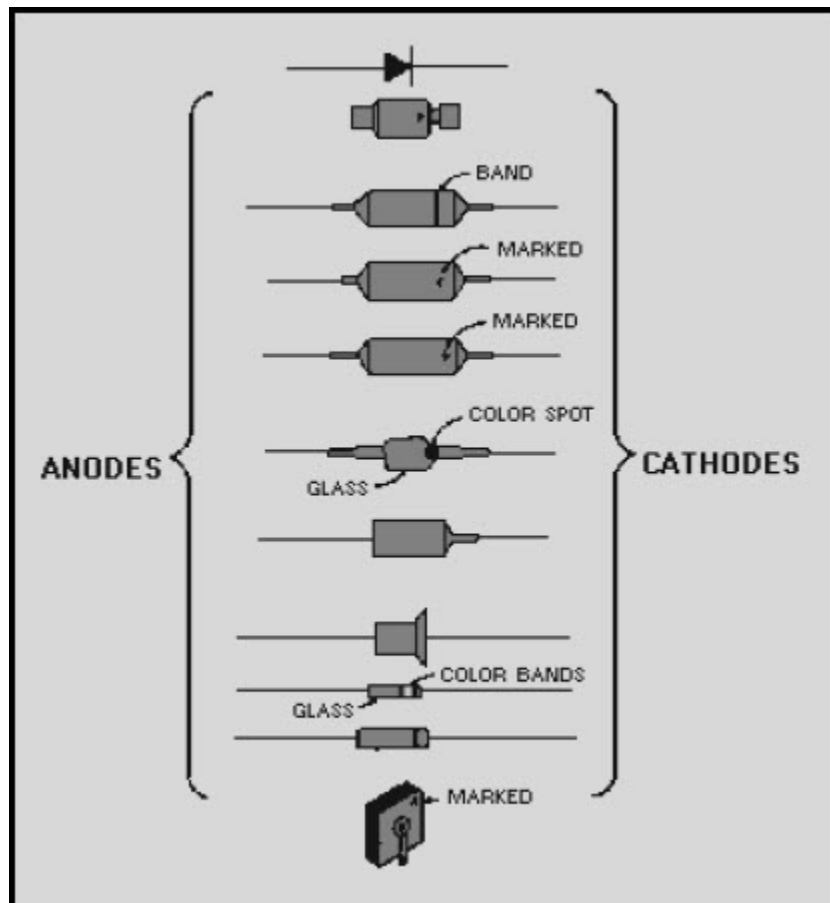

Figure 1-26 Semiconductor diode markings
When working with these different types of diodes, it is also necessary to distinguish one end of the diode from the other (anode from cathode). For this reason, manufacturers generally code the cathode end of the diode with a "k," "+," "cath," a color dot or band, or by an unusual shape (raised edge or taper) as shown in figure 1-26. In some cases, standard color code bands are placed on the cathode end of the diode. This serves two purposes: (1) it identifies the cathode end of the diode, and (2) it also serves to identify the diode by number.